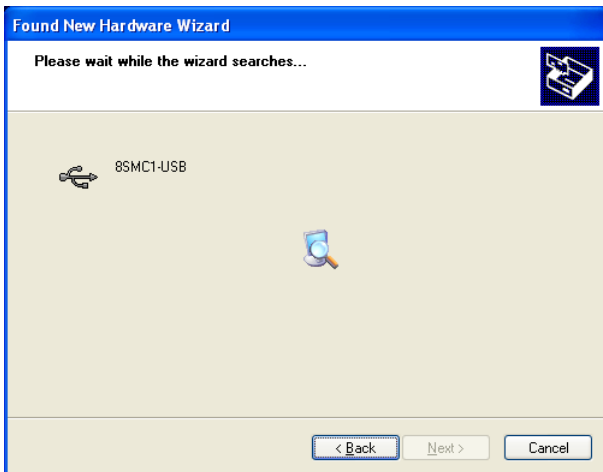
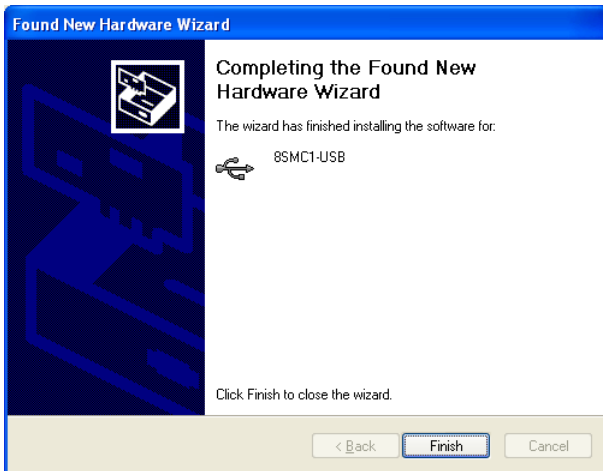

Figure 62. Hardware wizard 3rd screen
Figure 64. Hardware wizard last screen
- Wait until installation will be done (see Figure 62) and press "Finish" button (see Figure 64).